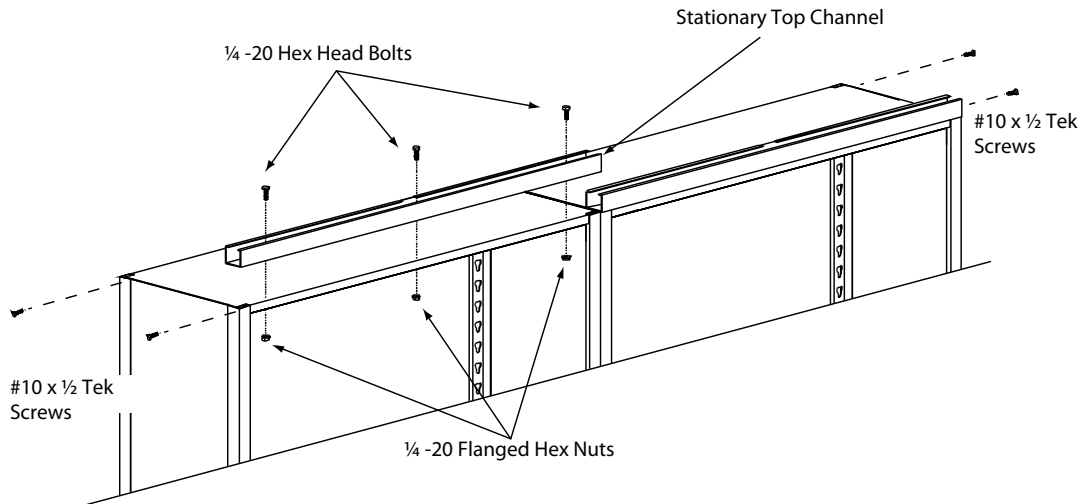

FIGURE 1
- STEP 2 Attach the Stationary Top Channels to the tops of the stationary shelving sections. Position each channel flush and even with the sides and front of each of the top shelf sections and drill three (3) 5/16 diameter clearance hole in the top shelves. Attach the channel by using three (3) 1/4-20 x 3/4 hex head bolts and secure using the 1/4 - 20 flange nuts. Repeat this step for each rear stationary section. Using the #10 x 1/2 Tek screws, fasten the top shelf to the upright posts. See Figure 1 .